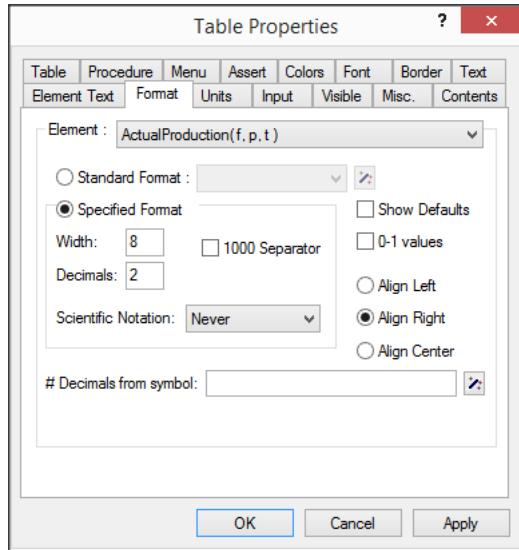

Figure 11.7: The Format tab of the Table Properties dialog box
- ▶ select the **Format** tab (see Figure 11.7),